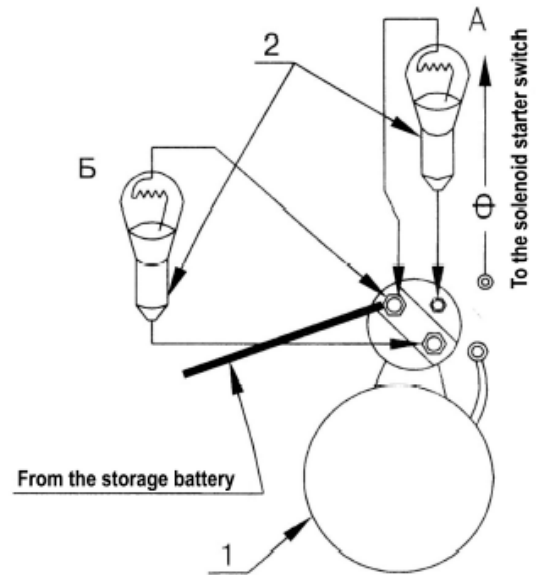

Fig.5. Checking the integrity of the windings of the solenoid starter switch "M3".
2) set the ground switch and connect the test lamp to the terminals of the solenoid starter switch as shown in Fig. 5. If the windings are intact, the lamp shall be lit dimly.